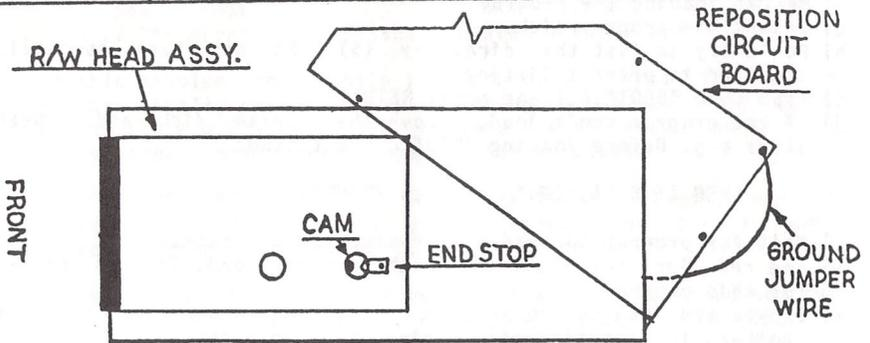

FIG. 3 TOP VIEW
- a) To do function 2 properly, you need to be able to see the clearance between the END STOP and the wedge- or arc-shaped stop on top of the STEPPER MOTOR CAM (see figure 3). It will probably be necessary to remove the circuit board to judge this gap accurately (see steps c-h of CHECK END STOP). Alternatively, you can remove the entire R/W assembly from the frame (see the first step of 'THE FIX').
- e) Carefully lift the circuit board and rotate it to the left. You may need to re-route some of the wires that are attached to the board in order to move the board far enough to expose the end stop (see figure 3). Sometimes it is easier to remove the connectors before trying to move the board.
- g) Find a spare piece of ordinary wire to use as a ground jumper wire. Attach one end of the jumper wire to the ground pad surrounding the screw hole at the left rear of the circuit board. Attach the other end to the metal frame of the drive (see figure 3).